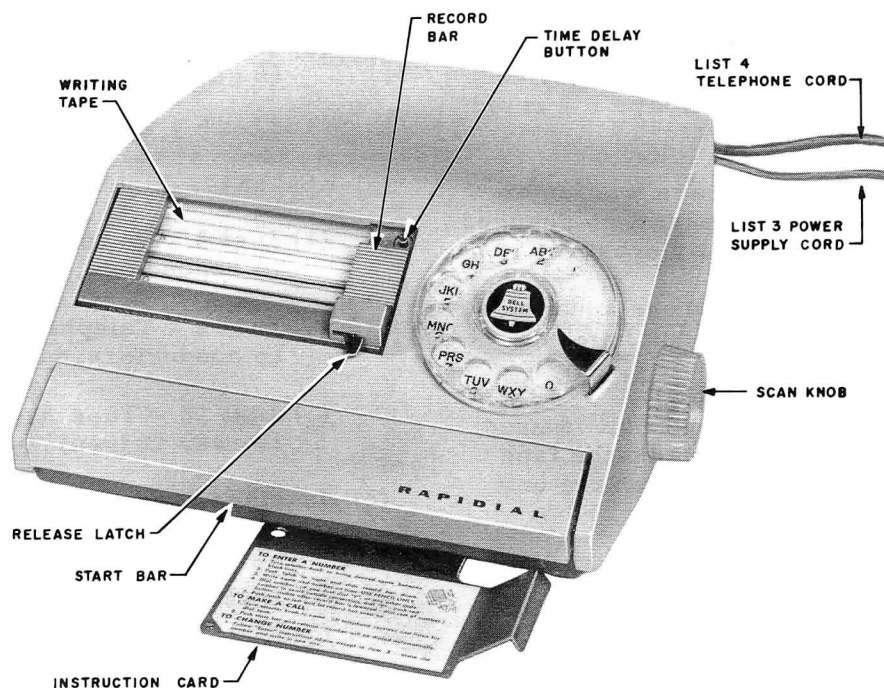

Fig. 1 - KS-16844, List 1 Rapidial
2.01 The KS-16844 Rapidial (Fig. 1 and 2) is a magnetic-type repertory dialer used in conjunction with a customer telephone set. It records, stores, and transmits dial pulses.